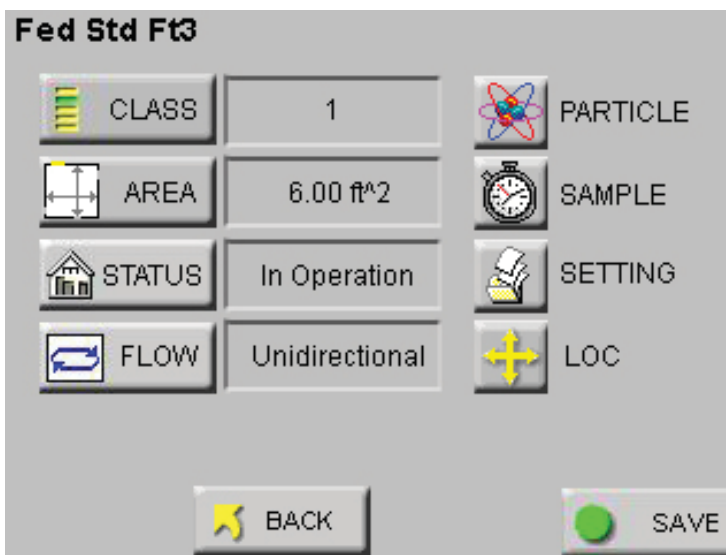

Figure 6-93 Reports Setup Screen
- Select BACK to return to the main REPORTs screen or select SAVE to save the configuration in the Recipe database. See Figure 6-93.